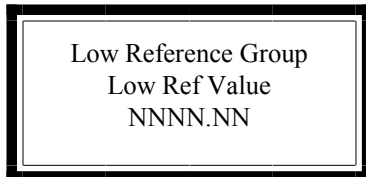

Figure 9a: The Low Referencing Value
- 3) Toggle the "Next" key until you reach "Low Reference Value" Menu, Figure 9a, and set the value to the desired Low Reference Value. (See Chapter 8 pages 1-3 on modifying Menu Variables).